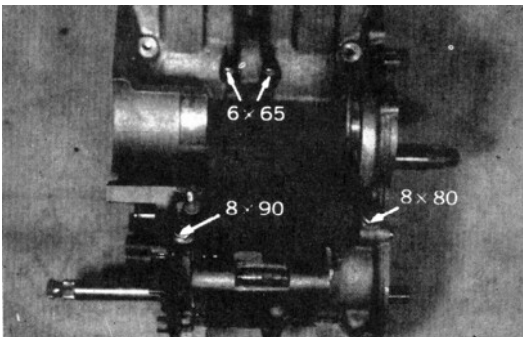

Fig. 27 Removing bolts of upper crankcase
16. Remove four hexagonal bolts, one 8×80 , one 8×90 , and two 6×65 of upper crankcase. (Fig. 27)